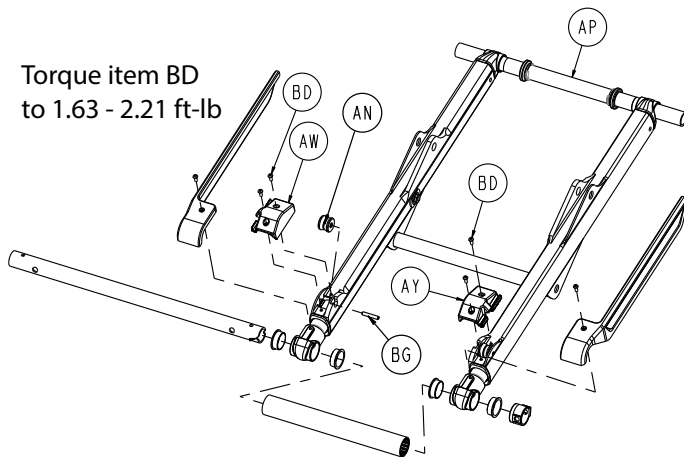

Figure 82 – Lift assembly components
8. Using a T25 Torx driver, remove the two button head cap screws (BD) that secure the roller cover (AW, AY) to the outer lift A-frame weldment (AP) (Figure 82). Save the screws.
12. Using a small punch, push the dowel pin (BG) through the external roller assembly (AN) (Figure 82). Remove and save the pin and roller assembly.